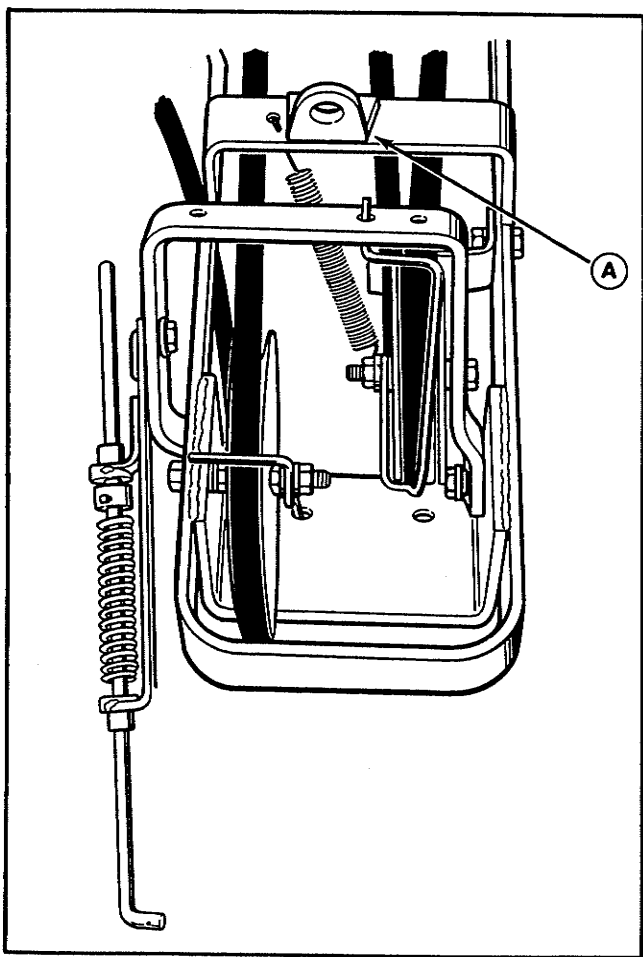

Figure 21. Mounting Bracket
1. Two mounting brackets (A, figure 21) are shipped with the hitch. Notice that one mounting bracket is about one inch longer than the other one. Use the longer mounting bracket for tractors with variable speed control lever. Use the shorter bracket for all other tractors. Install the bracket with two self-tapping screws as shown in figure 21. Keep the other mounting bracket, in case the snowthrower is eventually used with a different tractor.